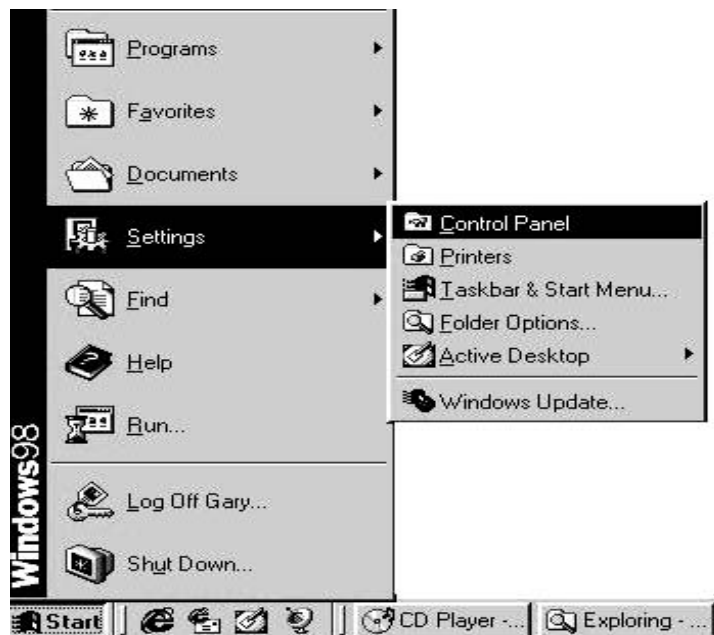

Figure 2-2 Windows –Setting-Control Panel
1. Invoke “Control Panel” as shown in Figure 2-2 .